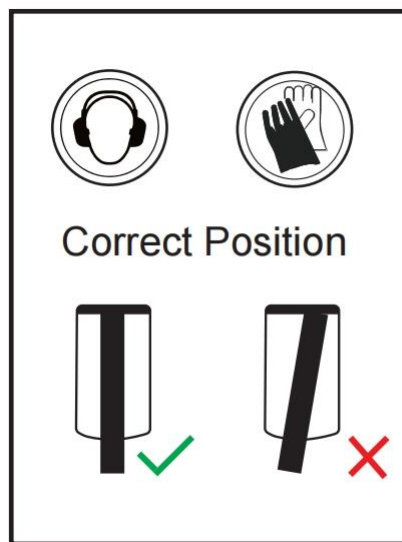

Fig.8
6.5. Ensure the post is in a vertical position and the post driver is on in a parallel plane to the post. The correct position as Fig.8.